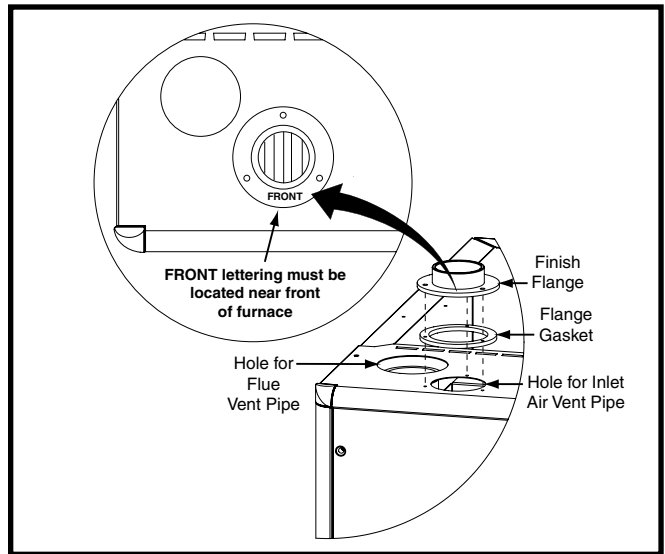

Figure 18. Finish Flange
The finish flange must be installed to vent the combustion air pipe through the top of the furnace. **NOTE:** For proper installation it is important that the pipe and screw holes in the finish flanges, gasket, and cabinet are aligned. See Figure 18.
2. Position finish flange on top of the flange gasket. **NOTE:** Make sure the flange is properly oriented so that the FRONT lettering is located near the front of the furnace as shown in Figure 18.